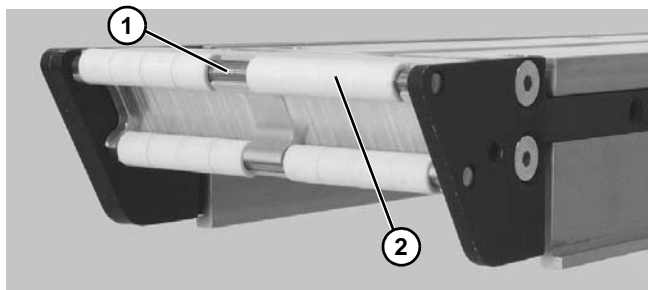

Figure 67
4. Slide nose bar rods (**Figure 67, item 1**) out side of conveyor and replace rollers (**Figure 67, item 2**) as necessary.